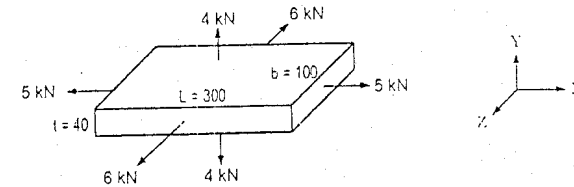

Figure.1
- b) A metallic bar  $300 \text{ mm} \times 100 \text{ mm} \times 40 \text{ mm}$  is subjected to external forces as shown in fig. 1. Determine change in volume of the block. Take  $E = 2 \times 10^5 \text{ N/mm}^2$ ,  $\mu = 0.25$ . 6 Marks